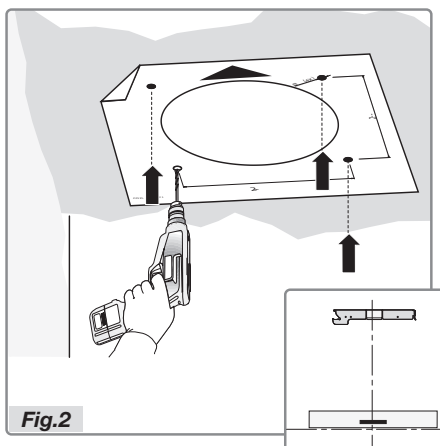

Fig.2
Replace the halogen bulb with one of the exact same type. Do not touch a halogen bulb with bare hands, and make sure you put the glass cover **C** (figure 2) back in place after replacing the bulb.
- Take the hole template and place it on the ceiling, with the arrow on the same side as the hood's controls (Fig.2).